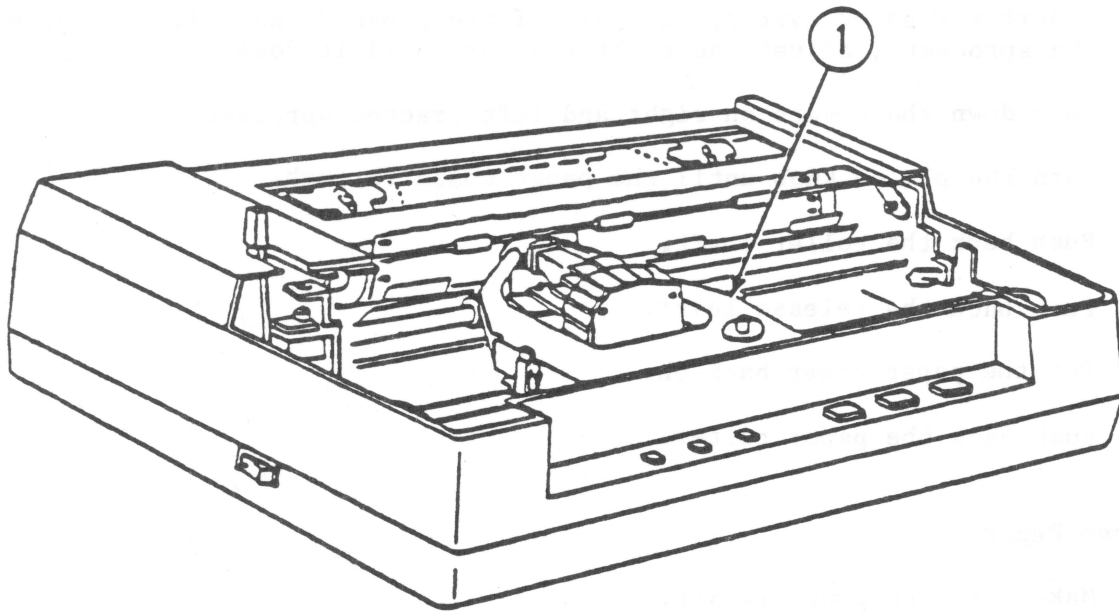

FIGURE 4
5. Push down on the cassette until it snaps in place. (See Figure 4, #1.)